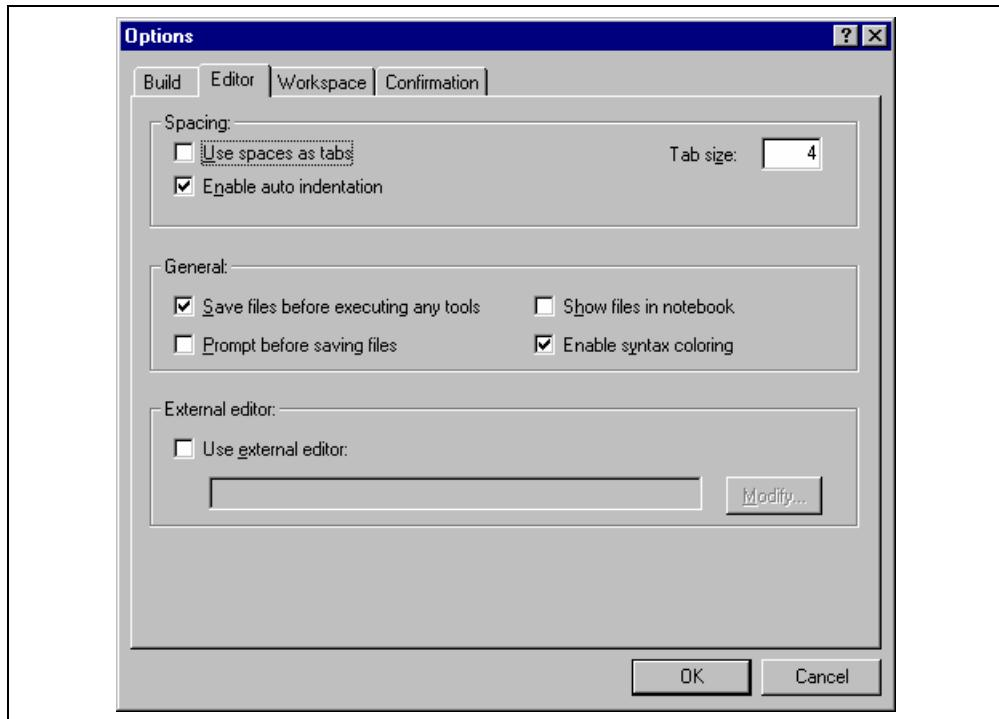

Figure 6.11: Options Dialog Editor Tab
1. Select [Tools->Options...]. The “Options” dialog will be displayed. Select the “Editor” tab (figure 6.11).
The High-performance Embedded Workshop allows you to customize file save on the “Editor” tab of the “Options” dialog (figure 6.11). To open the tab, select [Tools->Options...] and click the “Editor” tab.